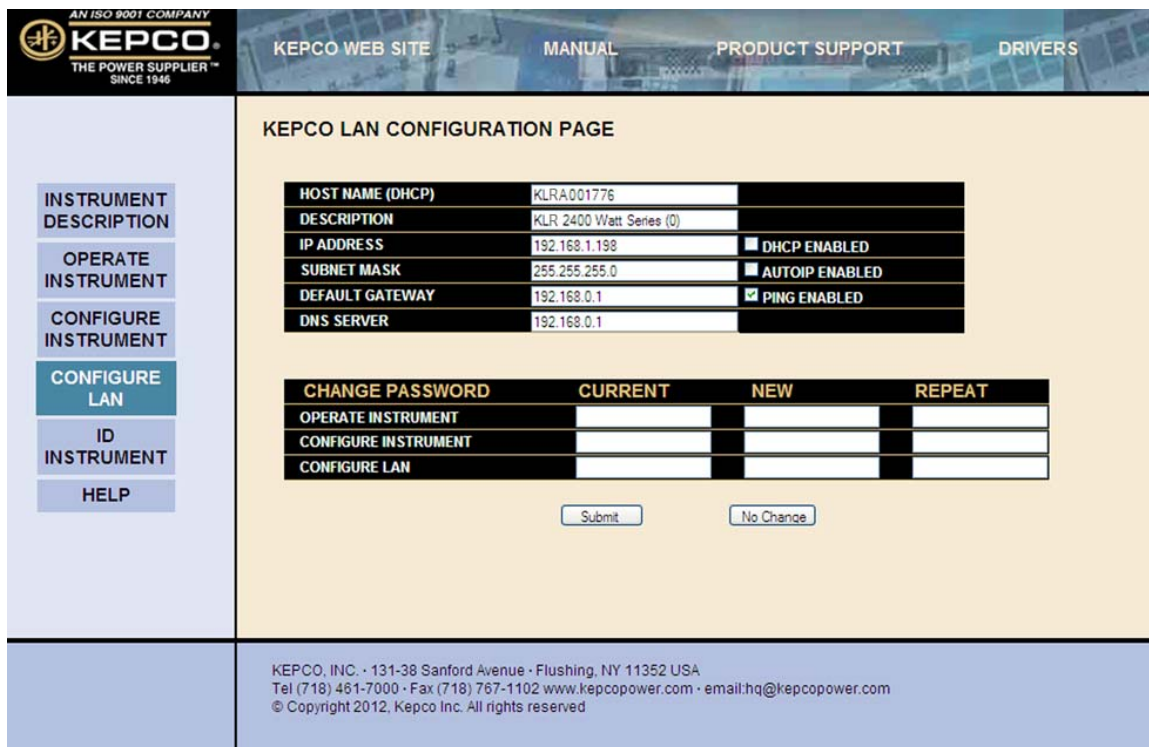

FIGURE 3-6. WEB INTERFACE CONFIGURE LAN PAGE
Click on CONFIGURE LAN at the left to view the LAN Configuration page (Figure 3-6). The parameters that can be configured from this page are Host Name (DHCP), Description, IP Address, Subnet Mask address, Default Gateway Address, and DNS Server Address. Separate checkboxes allow enabling of DHCP, AUTOIP and PING. Descriptions of these terms can be viewed by clicking the HELP box at the left. If a data entry fault condition exists, an alert window indicates the type of fault. Click OK to close the window; the SUBMIT button is disabled until the fault is corrected.
- The CONFIGURE LAN password restricts the ability to change the LAN configuration parameters shown on the CONFIGURE LAN page (Figure 3-6.)